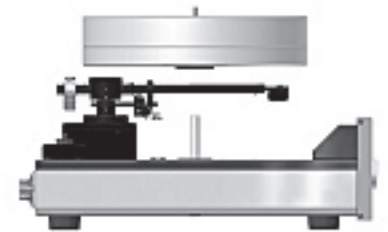

Figure 18
16. Very carefully center the Vertical Bearing Ceramic Shaft with the Vertical Bearing opening on the bottom of the Turntable Platter. Lower the Platter onto the Ceramic Shaft while keeping the platter parallel with the top surface of the Turntable. Refer to figures 18, 19 and 20.